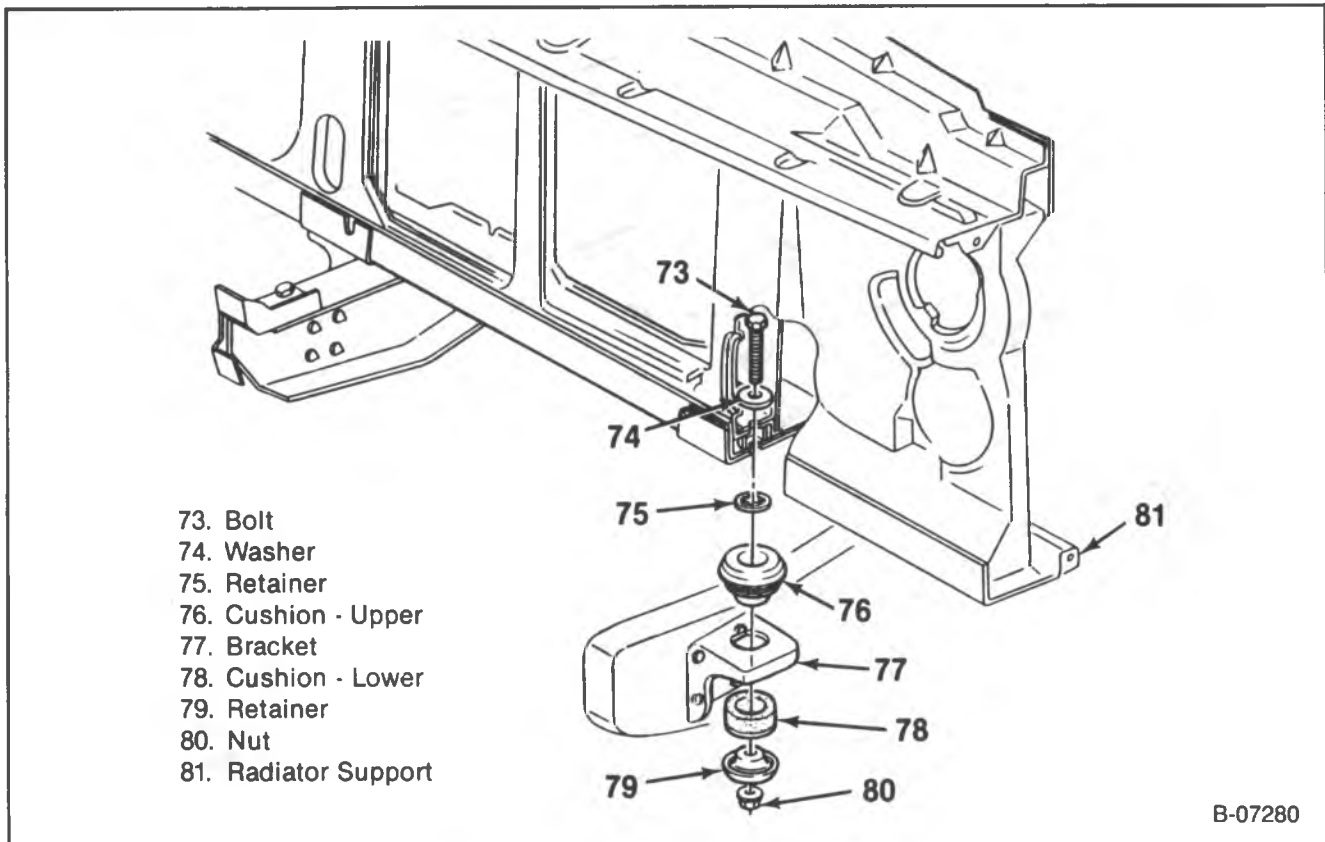

Figure 12 — Radiator Support Mounting
Remove or Disconnect (Figure 12)
Install or Connect (Figure 12)
17. Lower fender to door pillar bolt (45).
18. Radiator support to frame nuts (80), lower retainers (79), lower cushions (78), upper cushions (76), retainers (75), bolts (73), and washers (74) (figure 12).